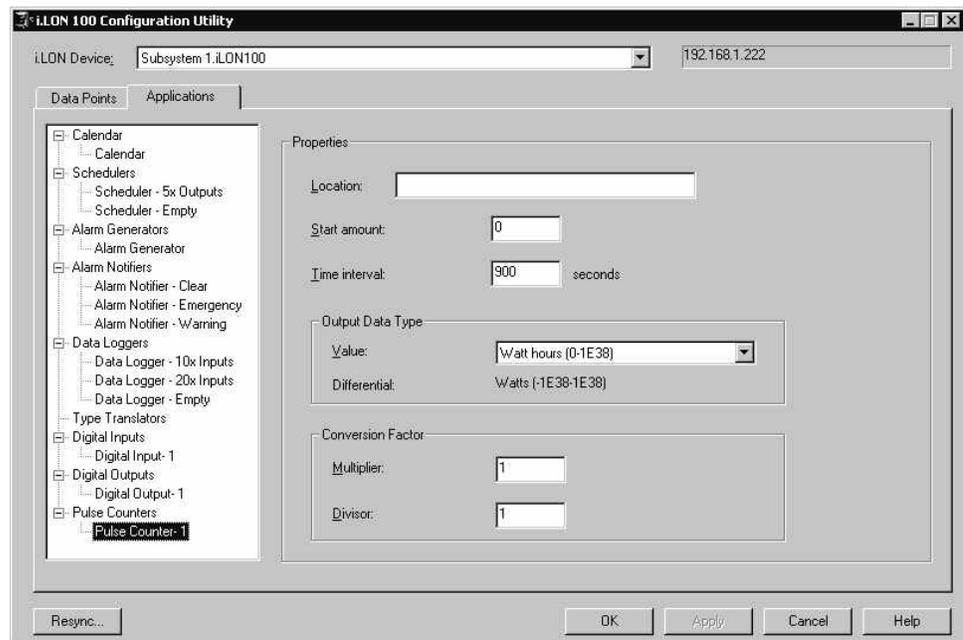

Figure 7.2 Pulse Counter Tab
6. Enter the IP address of the *i.LON 100* server and then click **OK**. The Pulse Counter tab opens, as shown in Figure 7.2.